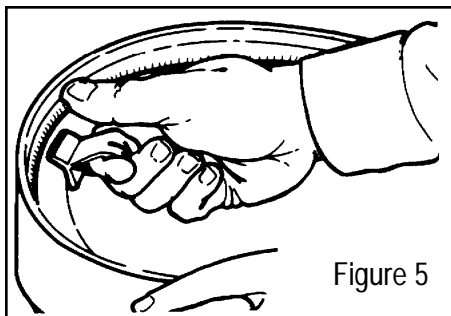

Figure 5
3. Turn helmet upside down. To remove inner shell from helmet, hook index finger into loop on back of inner shell. Press thumb against helmet rim and pull loop toward front of helmet, then pull up and away from helmet (Figure 5). This releases inner shell.